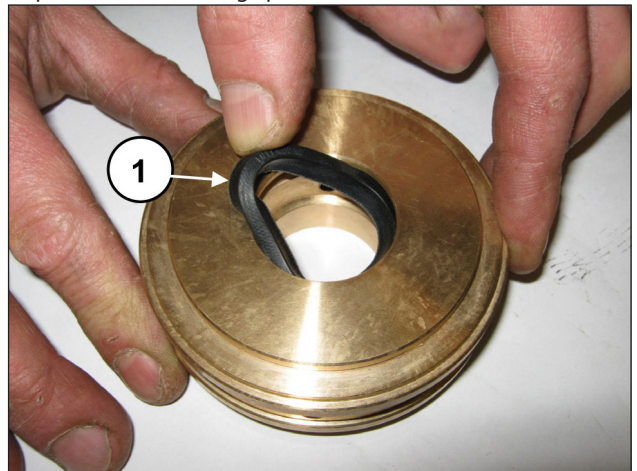

Fig. 175
Insert the low pressure seal in the seal support (pos. ①, Fig. 175) paying attention to the mounting direction which requires that the sealing lip be set forward (towards the head).